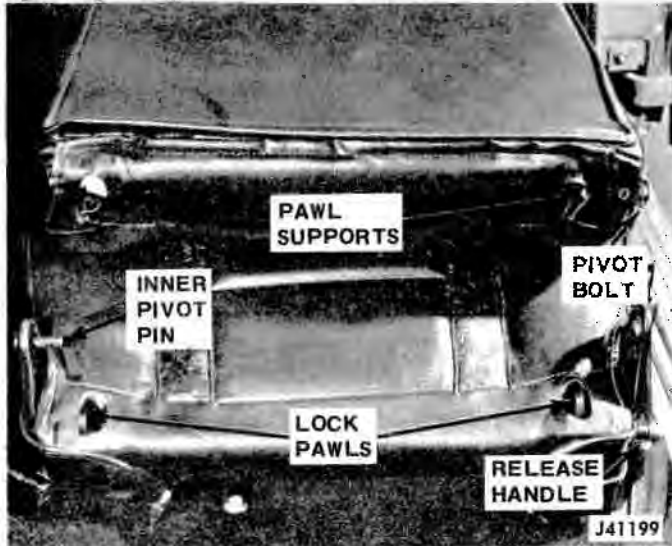

Fig. 19-2 Forward Tilting Seat Back - Cherokee and Truck
- (1) Remove seat back pivot bolt (fig. 19-2).
(2) Tilt the seat back forward to disengage seat back from inner pivot pin.
(3) Remove seat back.
(4) To install, position seat back to engage inner pivot pin (fig. 19-2).